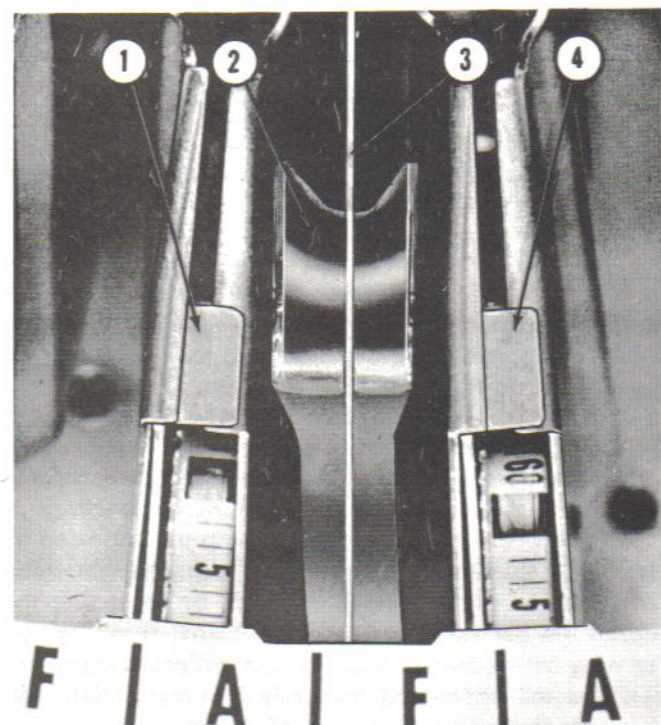

Fig. 48. BACK STOP PAWL ADJUSTMENT, 2510-2504
(4) The same procedure will be followed to set the back stop pawls on the 100 selection mechanism.
(5) The back stop pawls on the 104 selection mechanism are located at the front of the chassis shelf to the left and right of center. Figure 48, Item 3 shows the left hand record lift arm on the center